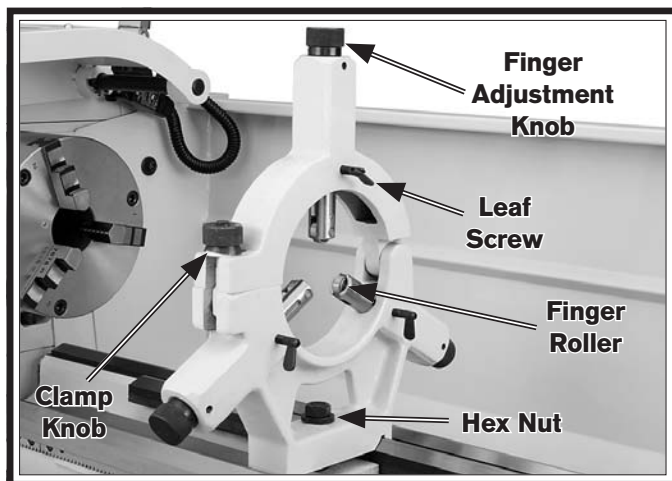

Figure 55. Steady rest components.
Familiarize yourself with the steady rest components shown in **Figure 55** to better understand its operation.
3. Position the steady rest where required to properly support the workpiece, then tighten the hex nut shown in **Figure 55** to secure it in place.